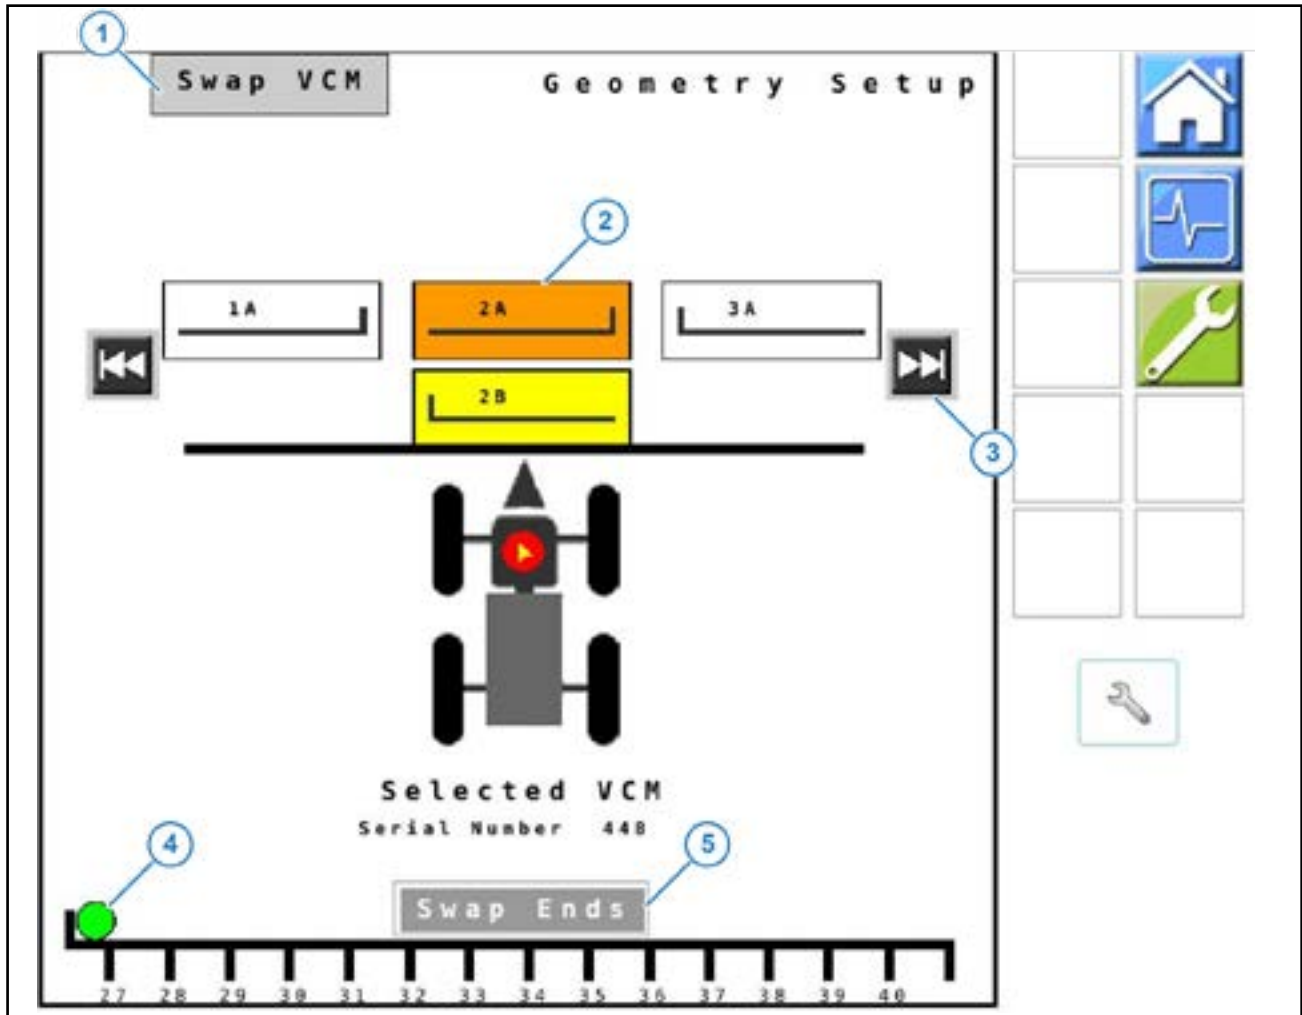

Figure 19: Geometry Setup - Legacy VCMs
3. If there are two VCMs on one section, you can change their positions. A Swap VCMs icon will show at the top of the screen (Figure 19, Item 1). To do this, tap one of the VCMs (will highlight yellow); tap the other VCM (will highlight orange); tap the Swap VCM button.
4. If the orientation on a VCM (Figure 19, Item 2) is incorrect, select Swap Ends (Figure 19, Item 5) to change which end the VCM (Figure 19, Item 4) is on.
5. Select  (Figure 19, Item 3) to go to the next VCMs in sequence.